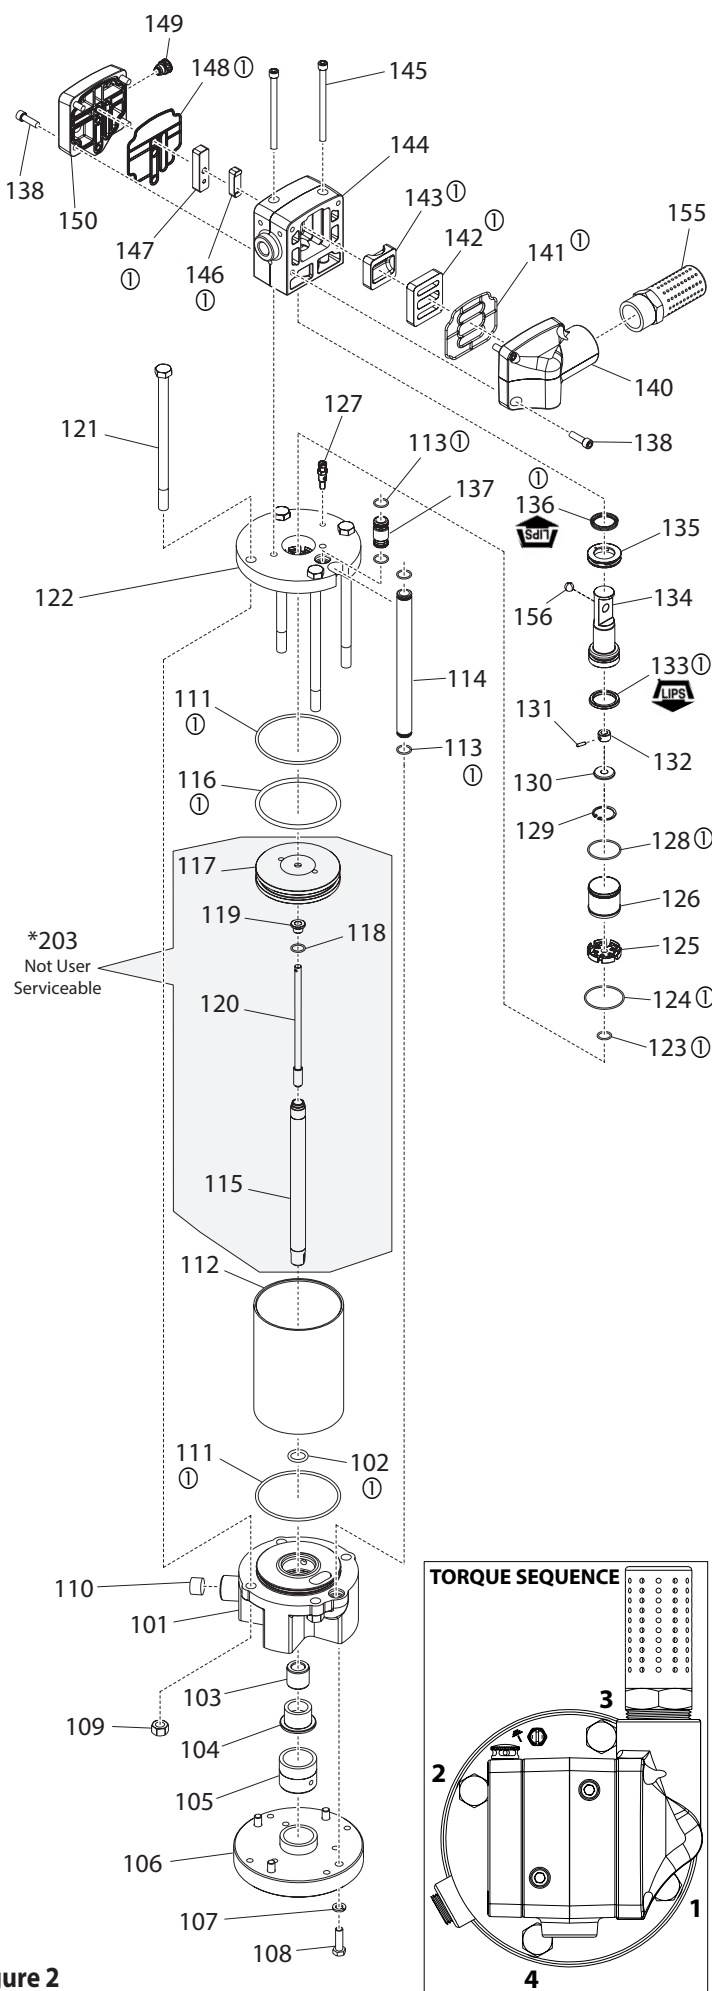

Figure 2
2. For model AF0460-XX, install (151) washer, (152) U-cup, (153) washer, and (154) snap ring into the (101) base assembly. For all other models, install the (102) O-ring into the (101) base assembly.
3. Install the (111) O-ring in the groove on the (101) base assembly.
4. Install the (116) O-ring in the groove on the (117) piston.
5. Push (115) piston rod thru the (101) base assembly, being careful not to damage the lips of the (152) U-cup or the (102) O-ring.
6. Lubricate the inside diameter of the (112) air cylinder and slide it down over the (203) piston assembly and onto the (101) air motor base assembly. (See Figure 2 on page 2).
7. Align notch in (122) head plate with the port in (101) base assembly and press the (122) head plate down until it is seated against the (112) air cylinder. The (120) trip rod assembly must lead thru the center of the (122) head plate.
8. Assemble the four (121) bolts thru the (122) head plate and the (101) base assembly.
9. Assemble the four (109) nuts to (121) hex head bolts and tighten per specified torque sequence and value.
10. Pull the (120) trip rod assembly as far out of the air motor assembly as possible, slide the (123) O-ring over the (120) trip rod assembly and down into the gland found in the (122) head plate.
11. Slide the (125) cap over the (120) trip rod assembly and down into the bore found in the (122) head plate.
12. Slide the (129) snap ring first and the (130) washer secondly, onto the (120) trip rod assembly.
13. Slide the (132) driver onto the (120) trip rod assembly. Align the hole of the (132) driver with the hole in the (120) trip rod assembly and insert the (131) pin.
14. Assemble the (133) U-cup and (156) rubber ball to the (134) spool. Take note of the (133) U-cup lips should point down towards the (122) head plate.
15. Slide the (134) spool onto the (120) trip rod assembly over the (132) driver and insert the (130) washer behind it. Utilizing snap ring pliers, assemble the (129) snap ring to the internal groove found in the (134) spool. Be certain that the (129) snap ring is fully engaged into the groove. Slide the (134) spool downward into the bore of the (122) head plate nesting on top of the (125) cap.
16. Lubricate the inside diameter of the (126) sleeve and slide it onto the (134) spool and locating it into the (125) cap. Take note that large taper on (126) Sleeve is to locate into (125) Cap.